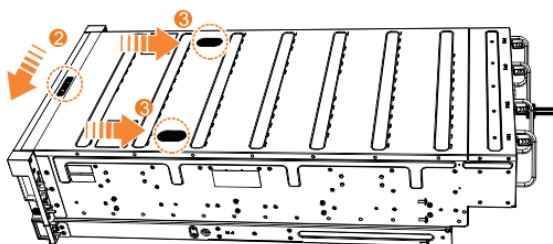

Figure 135. Replacing the top cover
7. Push the cover release lever to the side (2) as shown in Figure 135 on page 199.
8. Slide the cover towards the back of the enclosure (3) back until it stops, as shown in Figure 135 on page 199.